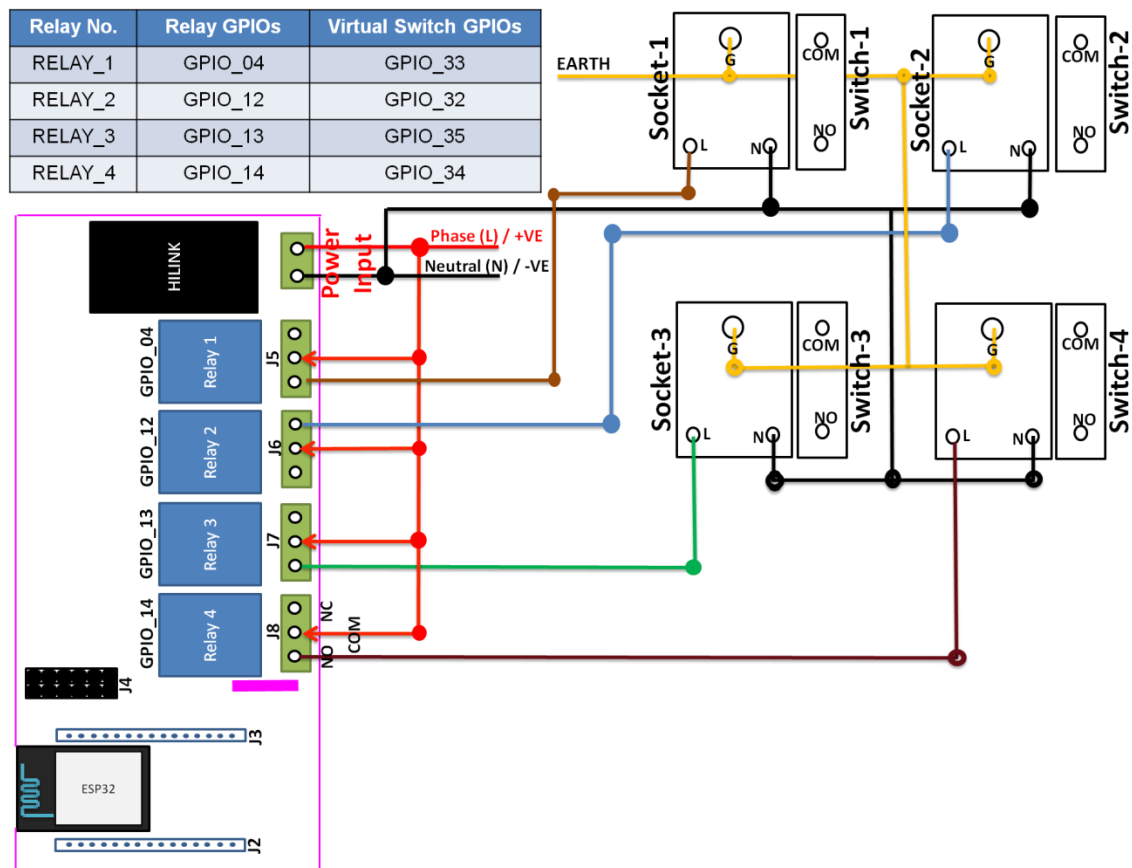

Figure 9: Application wiring example of AC connections
- i. Clicking on Enter button after entering default IP address, you will be able to access its webpage as shown in Figure 9.